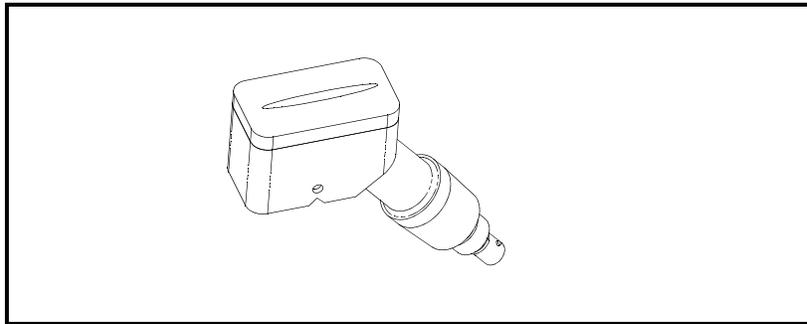

Figure 22: Applying Couplant to Transducer
1. Take one of the transducers and apply a thin bead of couplant down the center of its face approximately the size of a toothpaste bead (Figure 22 below).